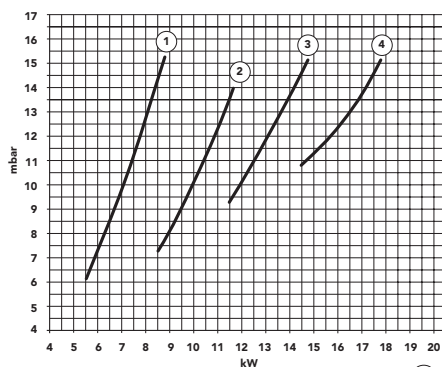
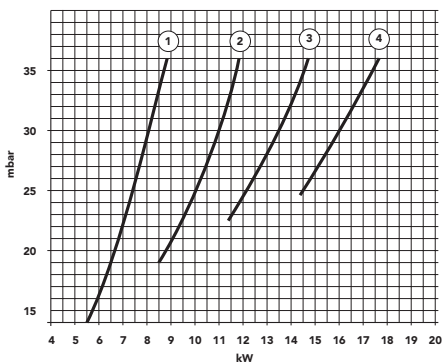

Fig. 42a
Fig. 42b
The diagrams indicate the variation in heat output to the water as burner working pressure is varied (fig. 42a and 42b). Adjusting boiler output to the actual requirements of the central heating system will minimise boiler cycling thus saving fuel, varying the output has virtually no effect on the efficiency and combustion characteristics of the boiler.
- 7) If inlet working pressure is ok using the test point on the gas valve marked OUT check the burner pressure. Burner pressures for the required heat output can be obtained from fig. 42a for natural gas and fig. 42b for LPG. The burner pressure is adjusted by the pressure regulating screw on the gas valve see section 4.01 for detail.